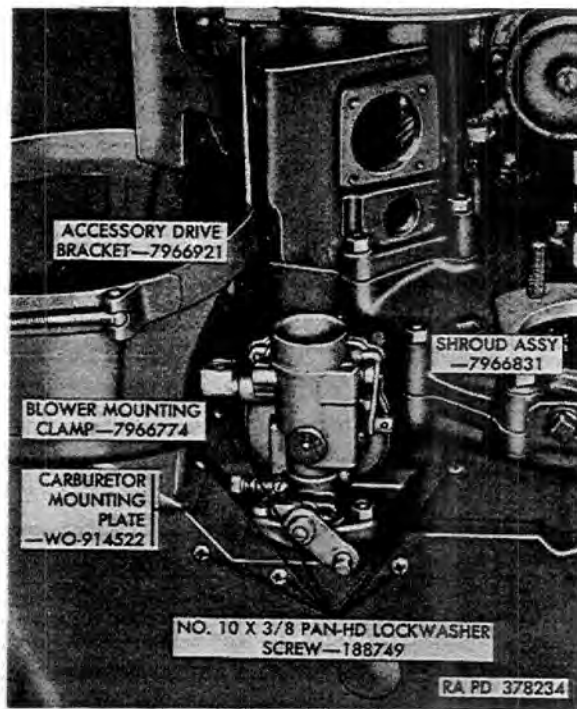
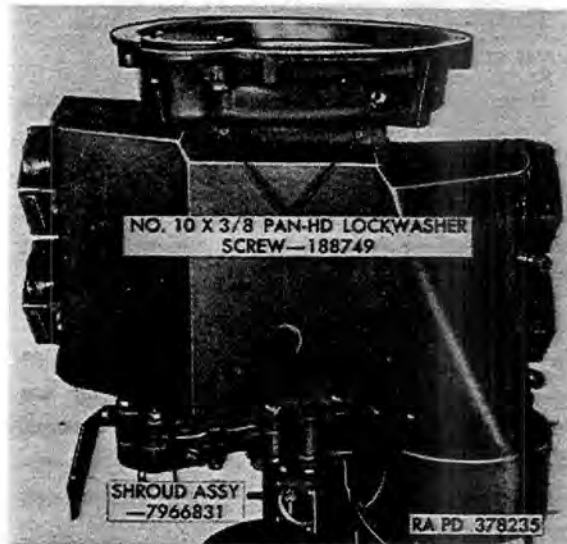

Figure 7. Shroud to carburetor mounting plate attaching points.
Figure 8. Shroud to cylinder block attaching points.
b. Remove two panhead lockwasher screws attaching shroud assembly (E, fig. 66) to oil cooler guard (F, fig. 66). Remove six panhead lockwasher screws attaching shroud assembly to carburetor mounting plate (fig. 7). Remove two panhead lockwasher screws attaching shroud assembly to top of cylinder block (fig. 8). Lift shroud gently from engine, manipulating oil cooler duct section of shroud to clear accessory drive bracket (fig. 7).